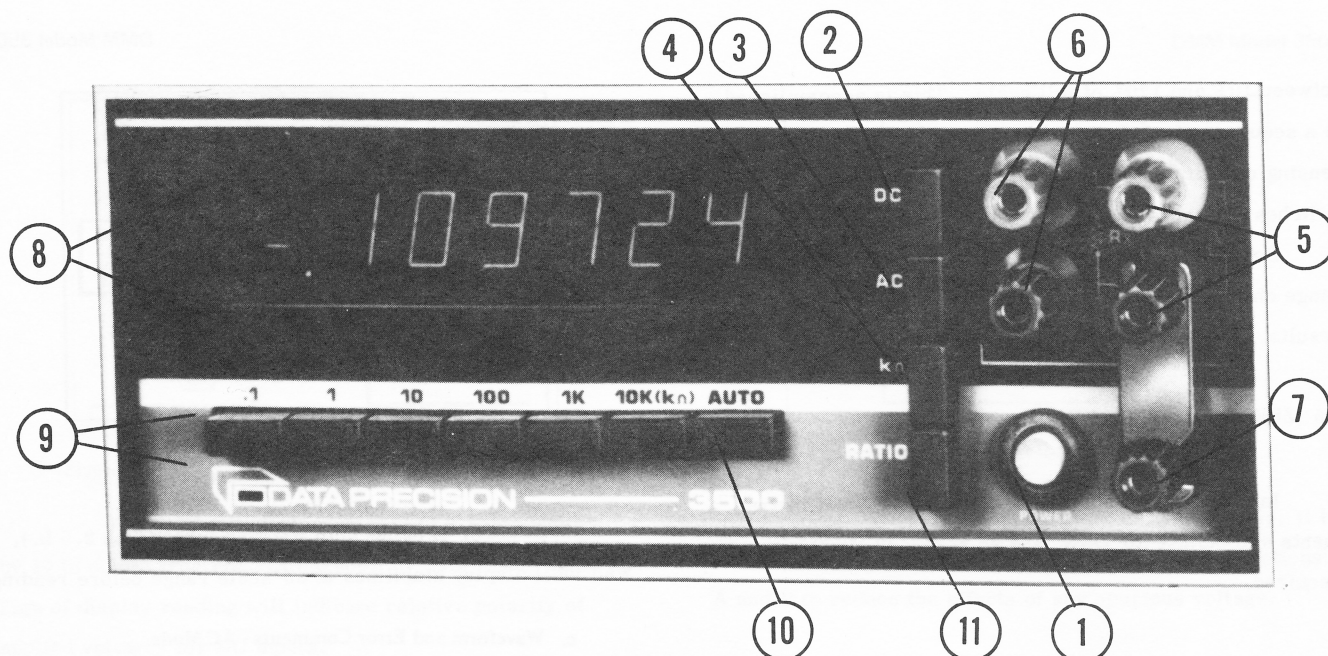
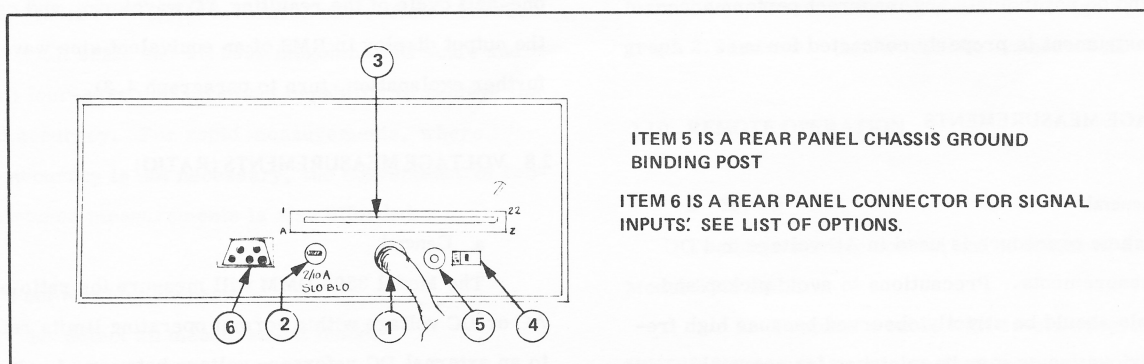

Figure 2-1 Model 3500 Front Panel Controls and Indicators
Figure 2-2 Model 3500 Rear Panel Controls and Indicators
The front panel controls and indicators are identified in Figure 2-1, and their functions are described in Table 2-1. The rear panel controls are identified in Figure 2-2, and are described in Table 2-2.
1. Press RATIO push button at Front Panel (Figure 2-1).